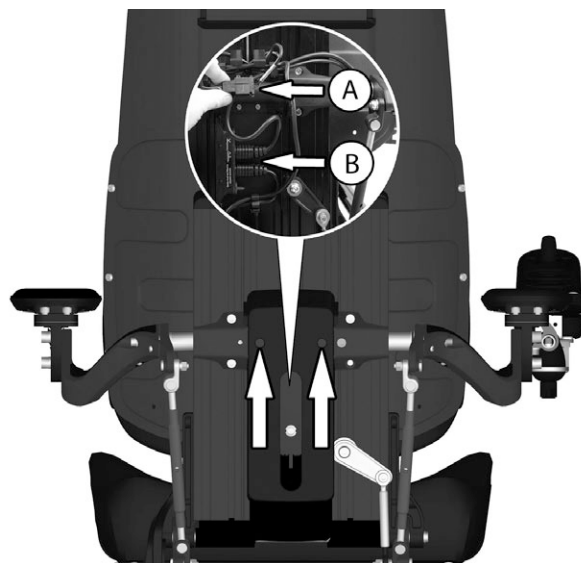

Figure 194. The plastic cover is fixed using two screws.
- 1 Allen key 3 mm.
- 1 Allen key 4 mm.
2. Loosen the two screws holding the plastic cover to the back of the backrest. Twist the plastic cover downwards. See fig. 194.
3. Remove the BUS contacts from the contact block and divide the cabling for the ICS switchbox at the contacts on the cabling. See fig. 194.
8. Assemble the BUS contacts on the contact block and assemble the cabling for the ICS switchbox at the contact on the cabling. See fig. 194.
9. Reassemble the plastic cover on the back of the backrest using the two screws supplied. See fig. 194.